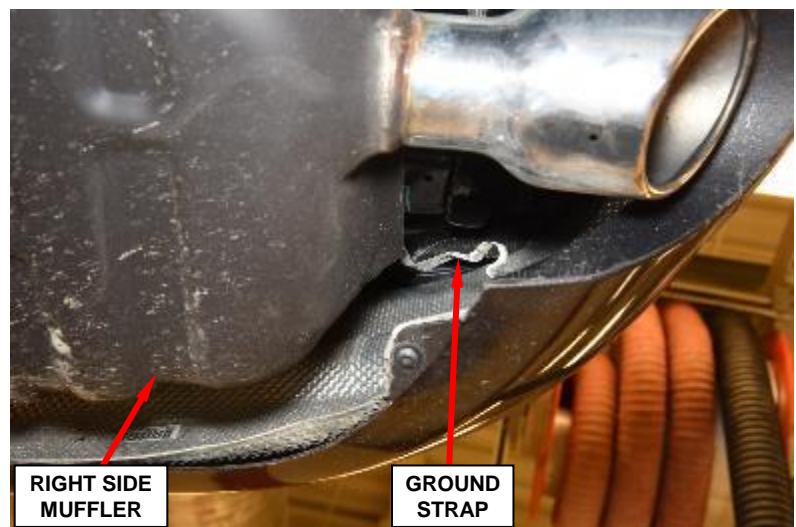

Figure 13 – Exhaust System Ground Strap
4. Disconnect the exhaust system ground strap from the right-side muffler (Figure 13).
31. Connect the exhaust system ground strap to the right-side muffler (Figure 13).